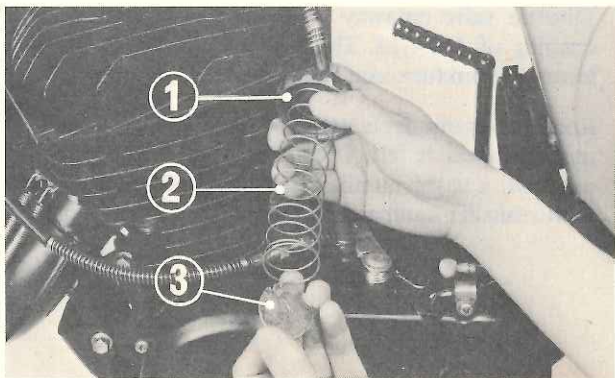

Fig. 3-90 (1) Carburetor top (2) Throttle valve spring (3) Clip plate
3. Install clip plate in direction shown in Fig. 3-90.